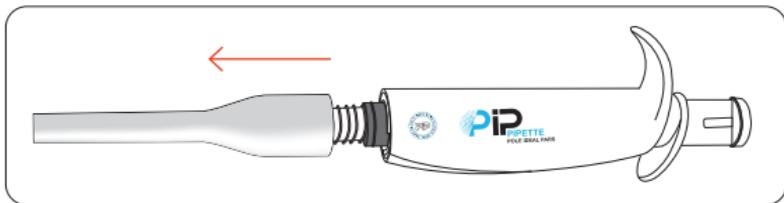
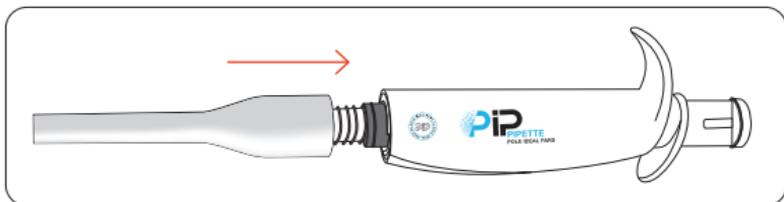

Figure 18. Remove the tip ejector
Figure 19. Assemble the tip ejector
1. Only disassemble the tip ejector carefully. (figure 18, figure 19)